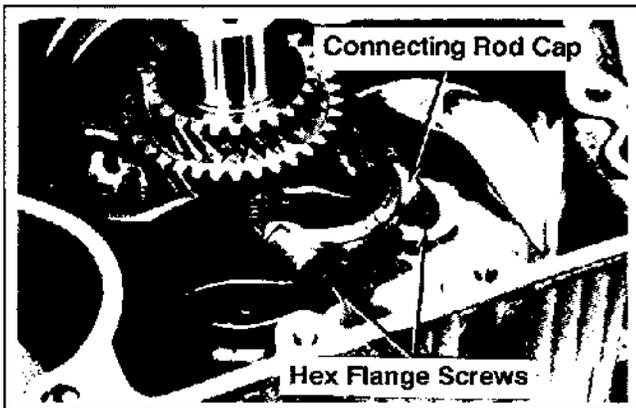

Figure 11-9. Installing Connecting Rod Fasteners.
5. Install the hex flange screws and torque in increments to 22.6 N-m (200 lbf.in). See Figure 11-9.